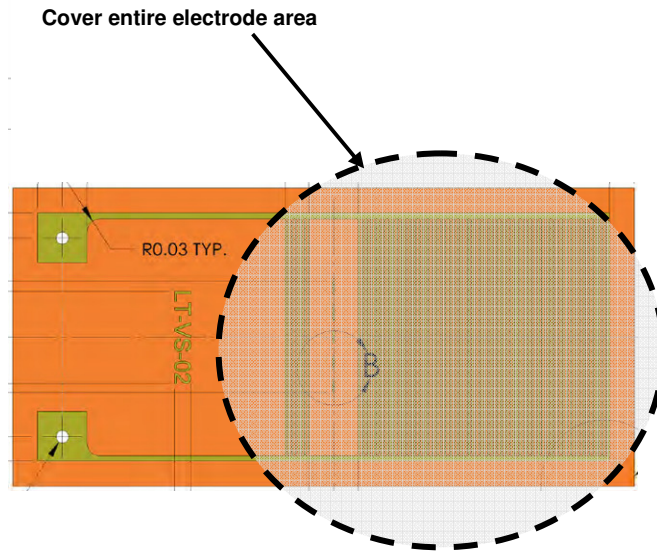

Figure 8-2
4. Place a sample on the sensor so it has good contact with the electrodes. Cover electrodes completely as shown in Figure 8-2.